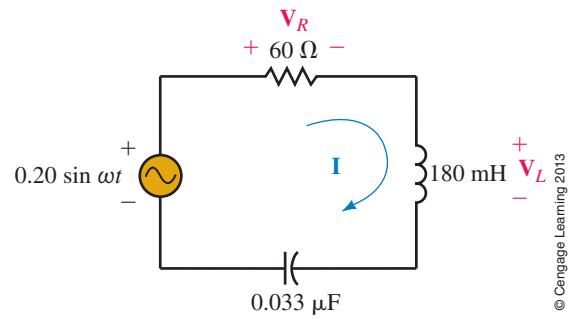

FIGURE 21-47
- Refer to the circuit of Figure 21-47.